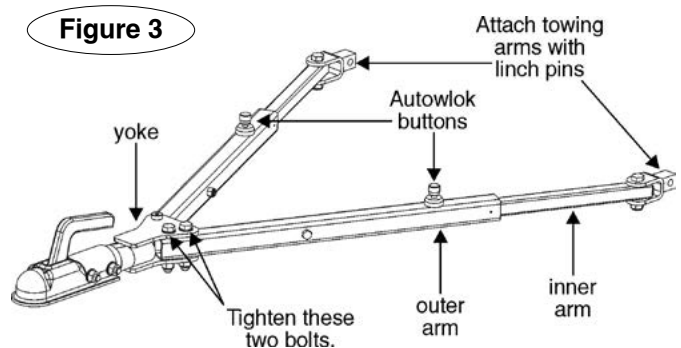

Figure 3
2. Holding both of the A-frame arms together, attach either arm to its corresponding towing arm with the included linch pin (Figure 3).
Both Autowloks (Figure 3) will engage – the buttons will pop up.
5. Using a torque wrench, tighten the two bolts at the yoke (Figure 3) to 57 ft./lbs. (77 N-M).
Clean all moving components, paying special attention to the inner arms and the locking mechanisms. Spray a liberal amount of cleaner on the inner arms and into the Autowlok buttons (Figure 3). Then, spray cleaner into the hole under each Autowlok button. Push and release each button, to work the cleaner into the locking mechanism.